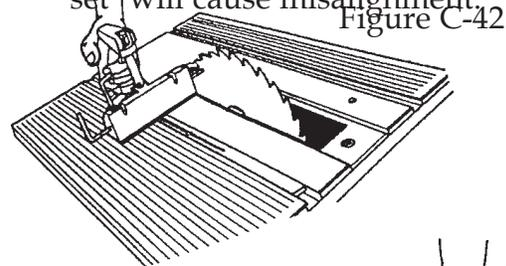

Figure C-42
- 42. Move the miter gauge from front to back along the saw blade, as shown in Figures C-42 and C-43. If it hangs up on the blade or a gap develops, the miter gauge slots need to be aligned. Make sure the Allen wrench does not contact a saw blade tooth, because the tooth "set" will cause misalignment.